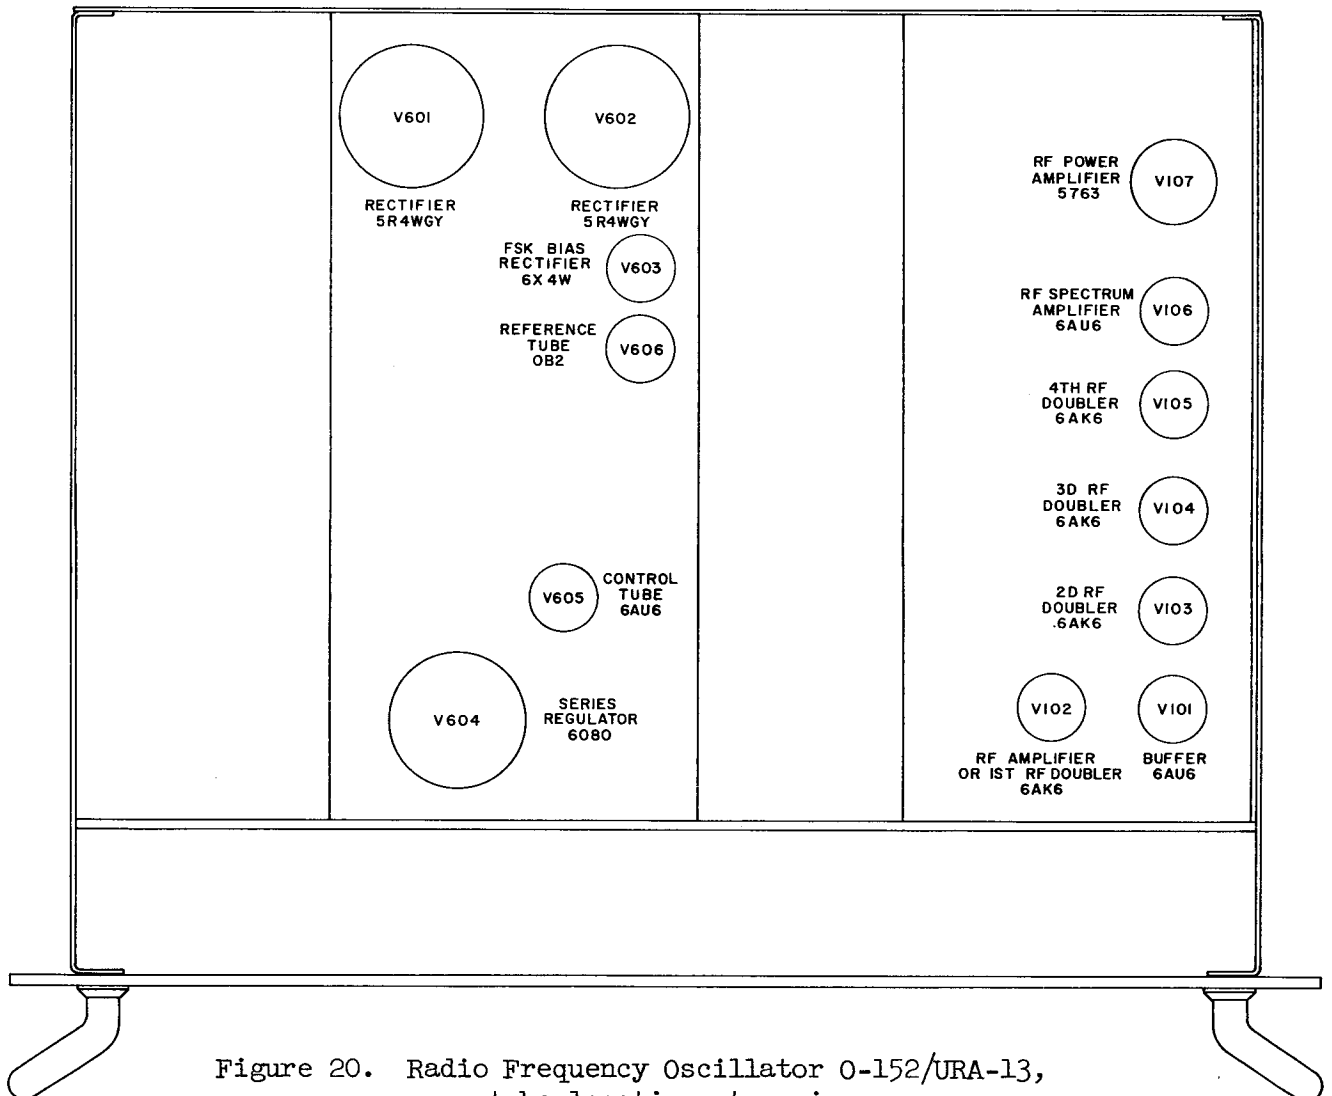

Figure 20. Radio Frequency Oscillator O-152/URA-13,
c. Radio Frequency Oscillator O-152/URA-13. Before installing the radio frequency oscillator, check all tubes to see that they are firmly seated in their correct sockets (figs. 20 and 21). Install the radio frequency oscillator in the equipment rack above the radio receiver.